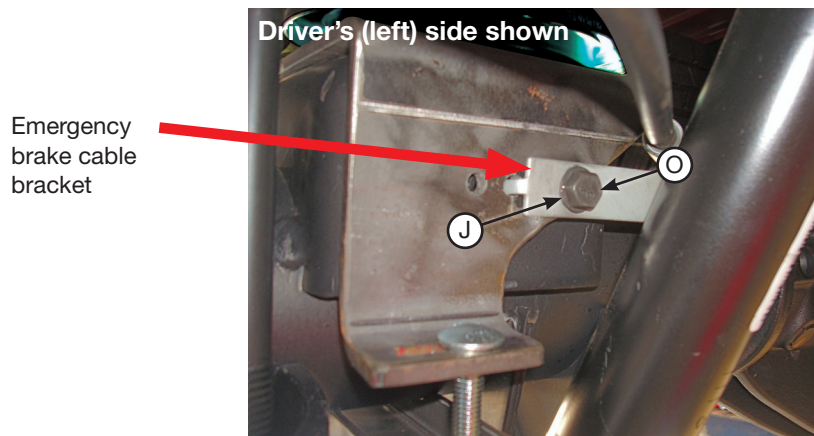

fig. 18
4. Attach the brake cable on the passenger's (right) side, forward of the axle with the new M8-1.25 x 10 hex cap screw (O) and 3/8" flat washer (J) (Fig. 18). Tighten securely.
It may be necessary to slightly bend this bracket to clear the edge of the lower bracket (Fig. 18).